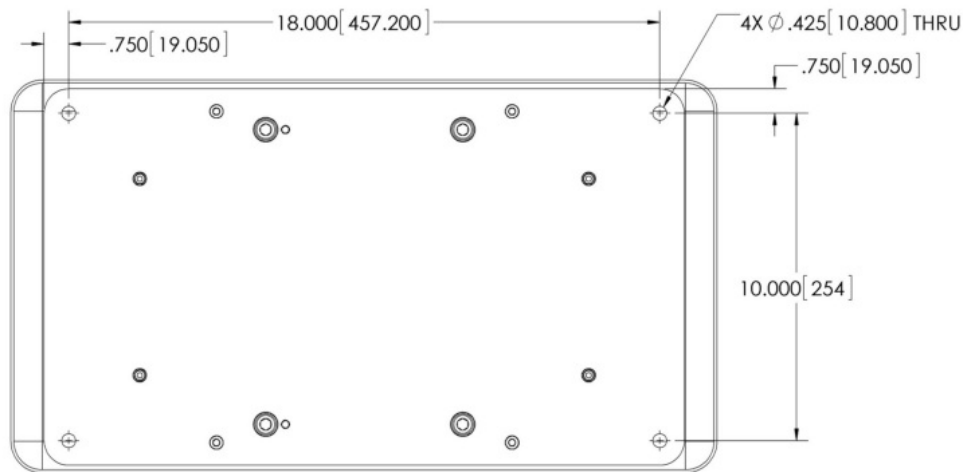

Figure 3. AFD90-3 Mounting Bracket hole locations
The AFD 90-3 is designed for mounting on a stationary fixture. It has four (4) 0.41" (10.5 mm) mounting holes spaced as shown in Figure 3. The AFD 90-3 Table Top Mounting Bracket should not be modified without first consulting Push Corp, Inc. The surface that the Mounting Bracket is mounted to must be flat to avoid distorting the